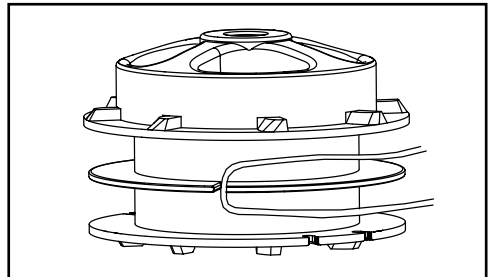

Fig. 15
2. Divide a spare cutting line in 2 equal halves, fix it in the winding core and start to wind the cutting line in two separated rails (Fig.15). Please follow the indicated winding.